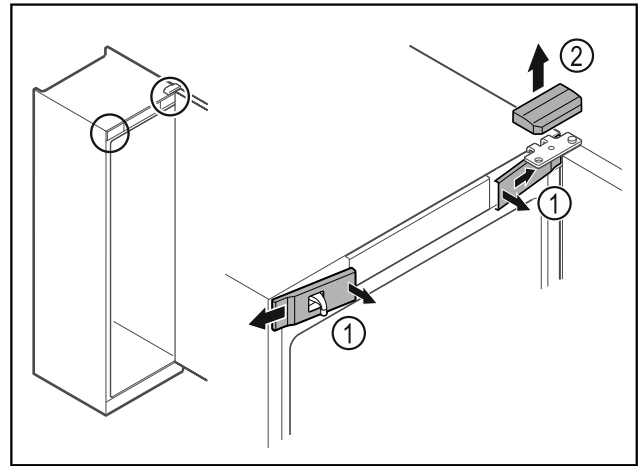

Fig. 36
- ▶ Unlatch the front covers Fig. 36 (1) on the inside and remove them sideways.
- ▶ Lift off the upper cover Fig. 36 (2).